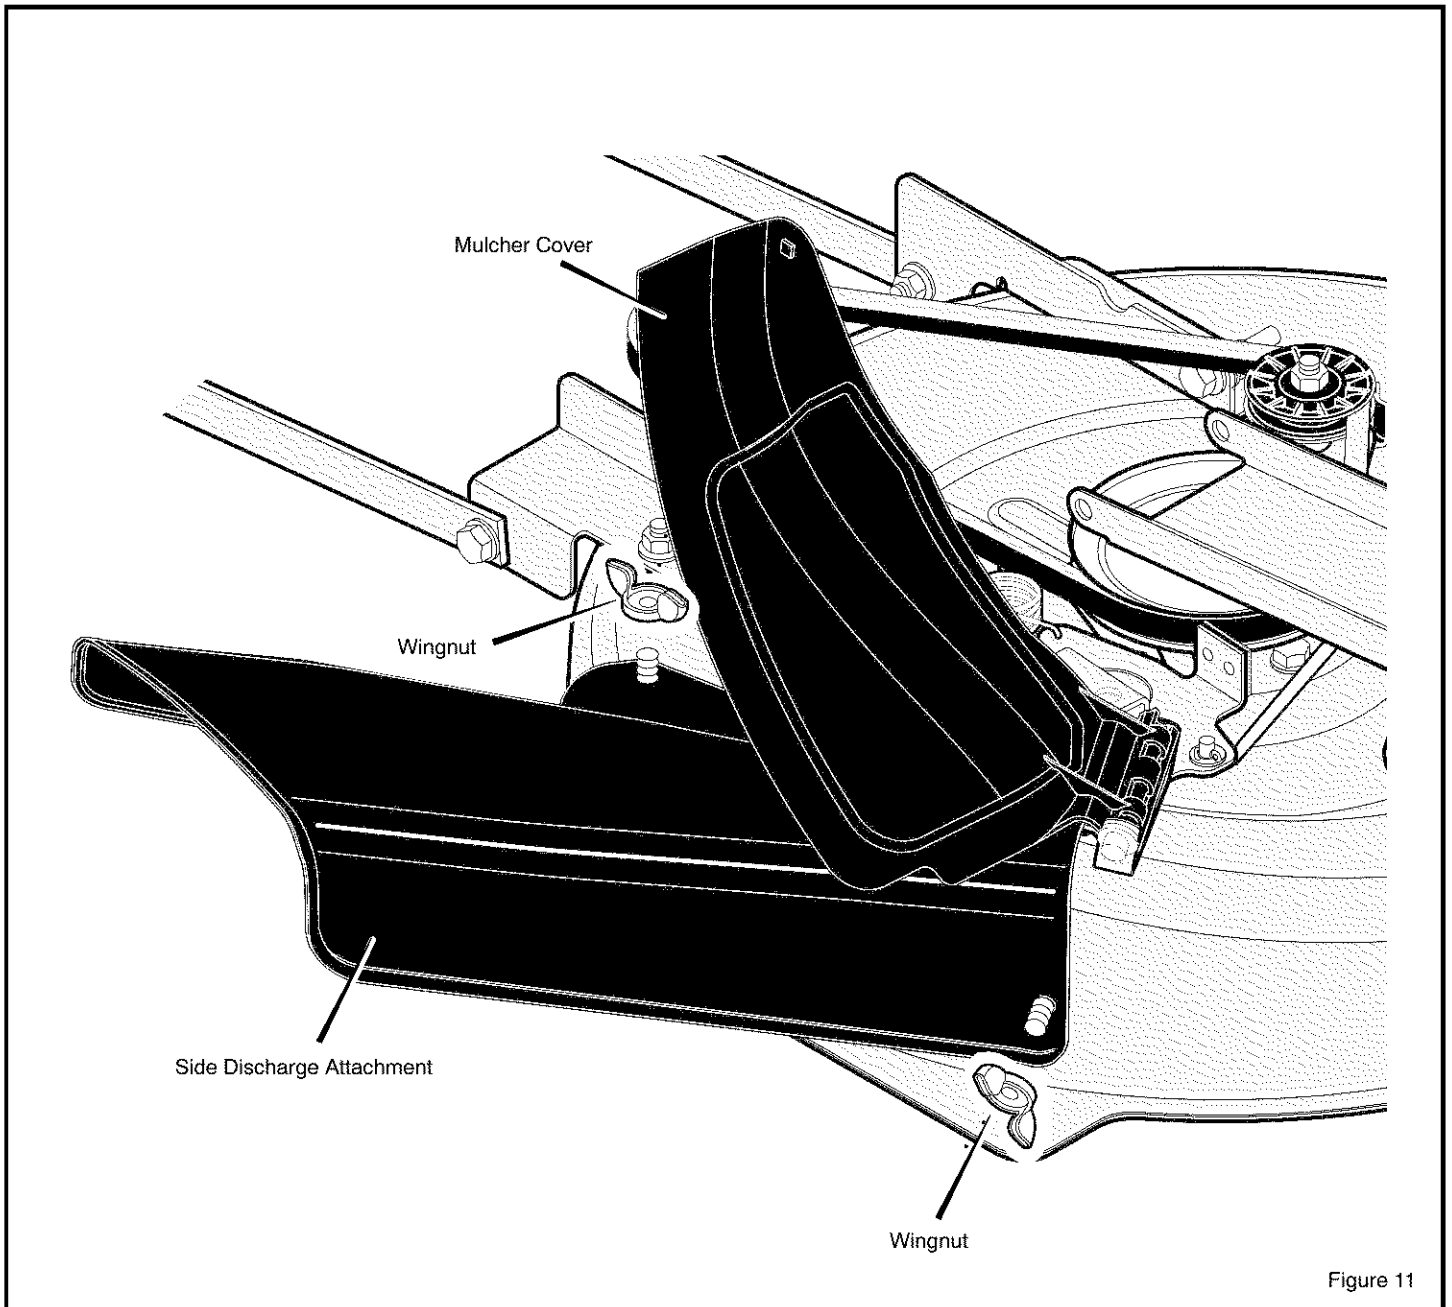

Figure 11
1. Remove the two **wingnuts** (see Figure 11).